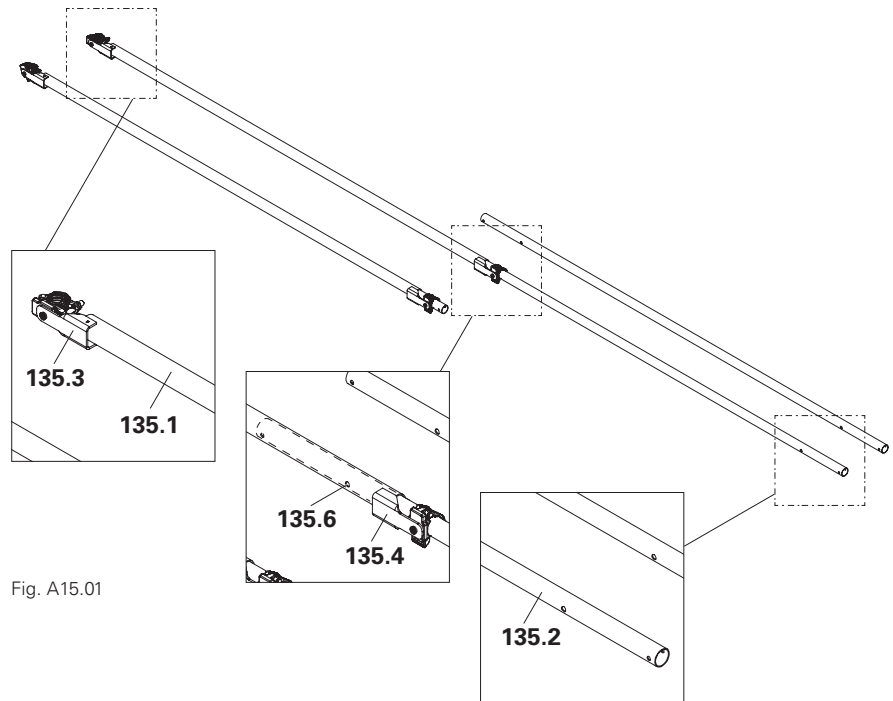

Fig. A15.01
- (Fig. A15.01)
- Maximum extension length 5.60 m. The second hole (**135.6**) in the inner tube must not be visible and must always be completely covered by the outer tube. (Fig. A15.01)